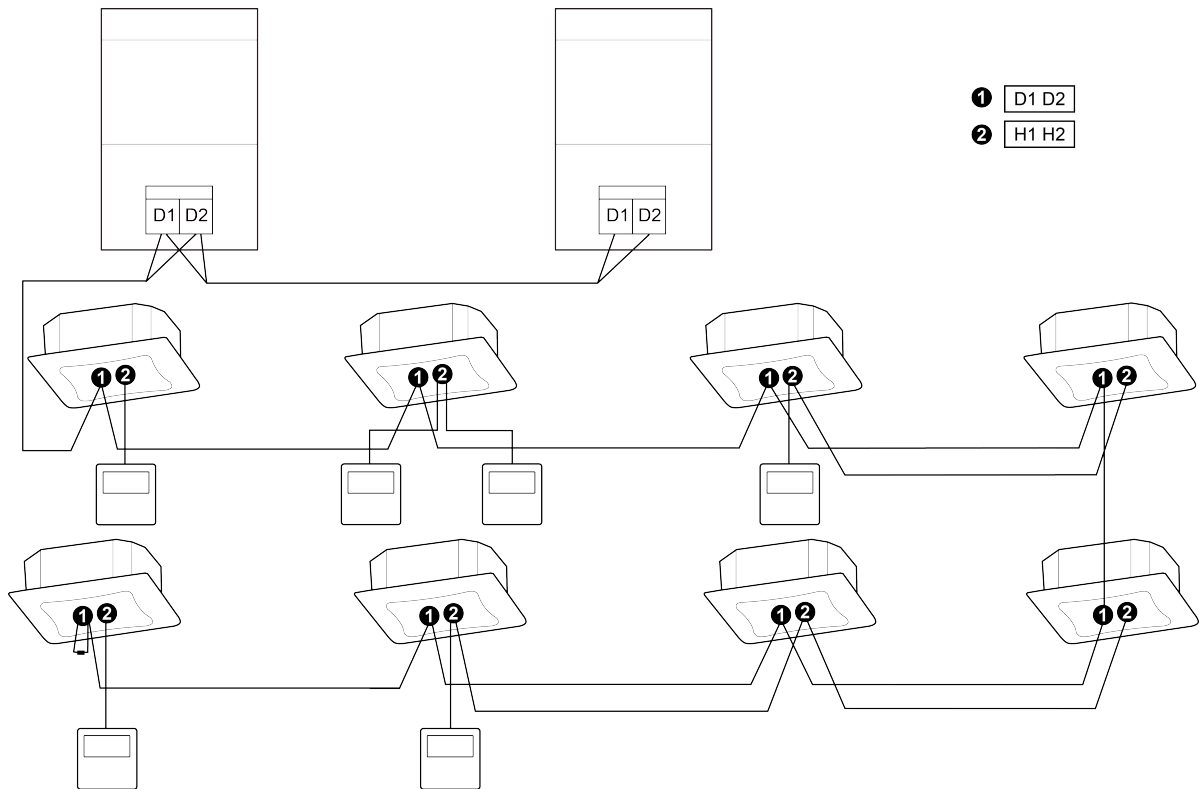

Fig.5.5.1
- (1) Communication wire of indoor unit and outdoor unit (or indoor unit) is connected to D1, D2.
- (2) Wired controller is connected to H1, H2.
- (3) One indoor unit can connect two wired controllers that must be set as master one and slave one.
(4) One wired controller can control 16 indoor units in maximum at the same time (as shown in Fig.5.5.1).